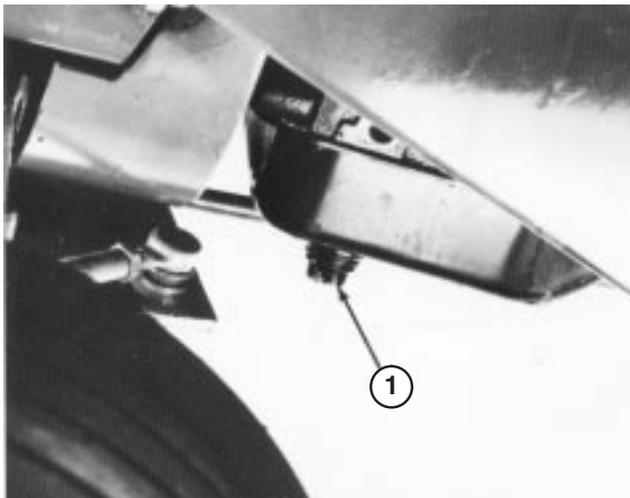

Figure 47
2. Disengage hood latch and open the hood. Set drain pan under the housing and in line with drain plug (Fig. 47).
3. Clean area around drain plug (Fig. 47).